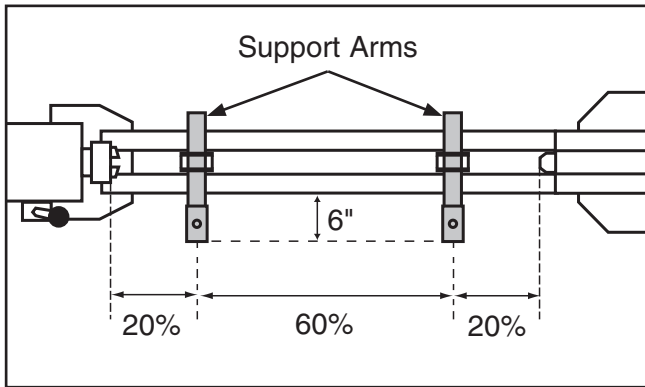

Figure 7. Attachment locations for support arms.
- Adjust support arm assemblies so they are centered on points measuring 20% of distance across lathe bed from headstock to tailstock (see **Figure 7**). Front of support arms should extend beyond front of lathe bed by about 6".